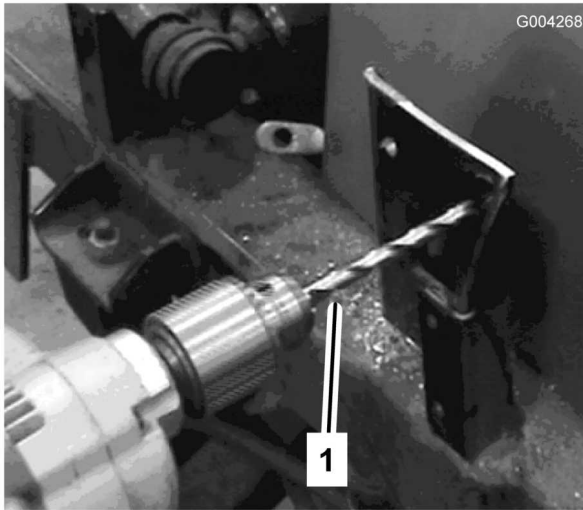

Figure 14
11. Finish drilling the holes with a $21/64$ inch bore bit (Figure 14).